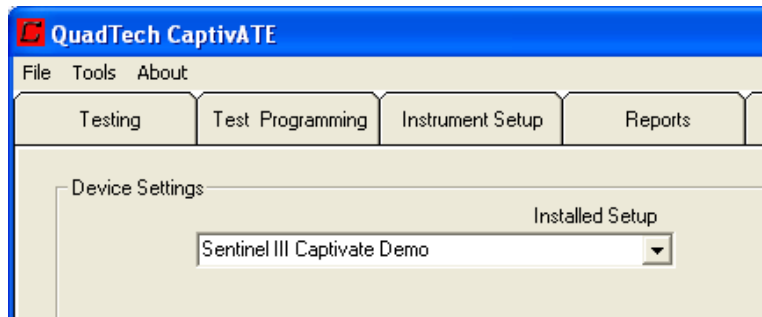

Figure 56 Admin Settings: Selecting an Installed Setup
- From the Installed Setup drop down box, click an instrument setup as in Figure 56.